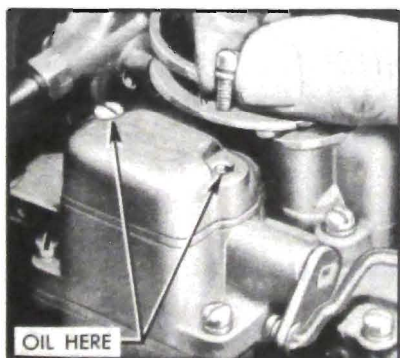

Figure 1-13—Countershaft Lubrication
4. Pump Operating Countershaft—Carter Carburetor Only. Remove the 2 dust cover attaching screws, apply several drops of engine oil in screw holes above the countershaft, and install screws. See figure 1-13.